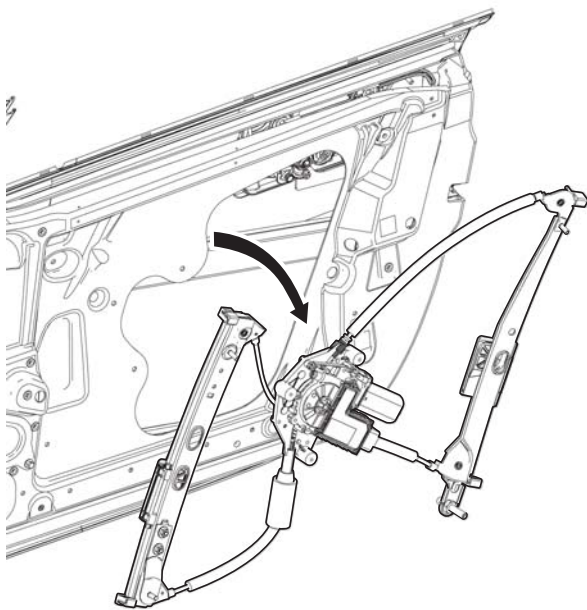

Figure 4
- Carefully remove regulator mechanism and regulator motor out through the larger door frame aperture (see Figure 4).